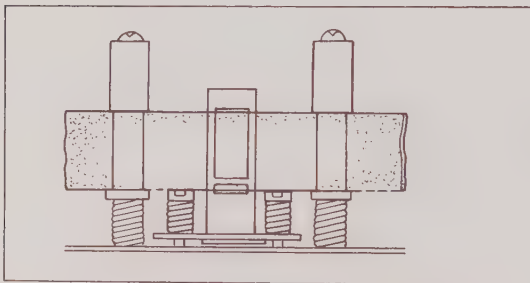

Fig. 5-8. Erase head height adjustment
5. Adjust the height of the head, using appropriate spacers to make the top and bottom edge of the erase head cores appears equally as shown in Fig. 5-8. There are five spacers available as follows: